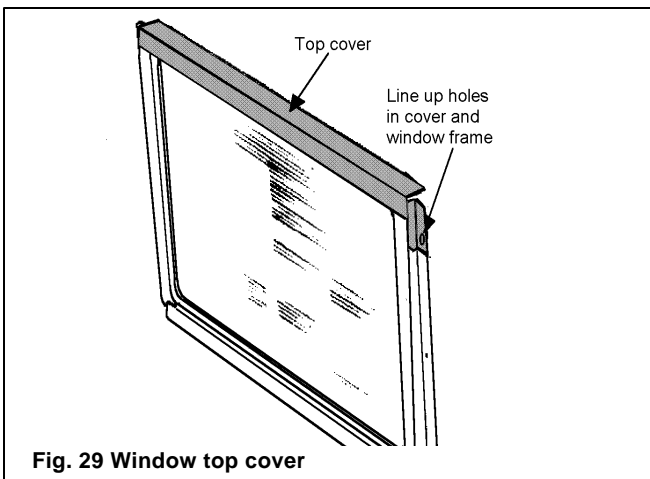

Fig. 29 Window top cover
- 16.3 If installed with a traditional design front fascia, fit the window frame top cover (supplied in the pack) over the top of the window frame to hide the bare metal (see figure 29).